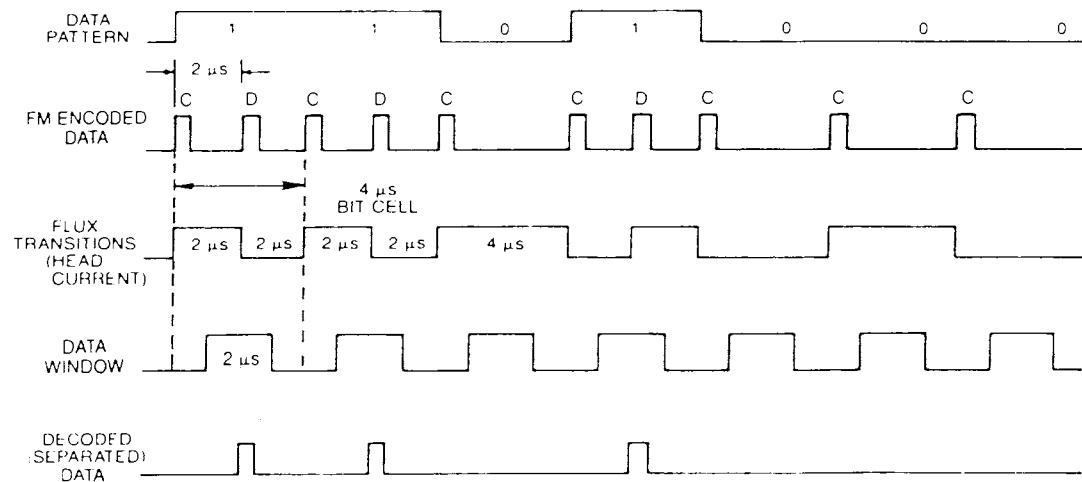

Figure 7-19. FM Encoding Scheme
Once the FDD has been activated and the 8272 has been placed in the Read Data Mode, the head is positioned at the required track on the diskette. The data is then read from the sector(s) and is presented to the Floppy Disk Data Separator (9216) as a composite serial clock/data stream. If the recording format used is single density, the signal will be an FM (Frequency Modulation) encoded signal. If the recording format used is double-density, the signal will be an MFM (Modified Frequency Modulation) encoded signal. Typical FM and MFM encoded signals are shown in Figures 7-19 and 7-20. The FDDS derives a clock signal from the composite signal and regenerates the clock (DW) and the data (SEPD\*) signals.